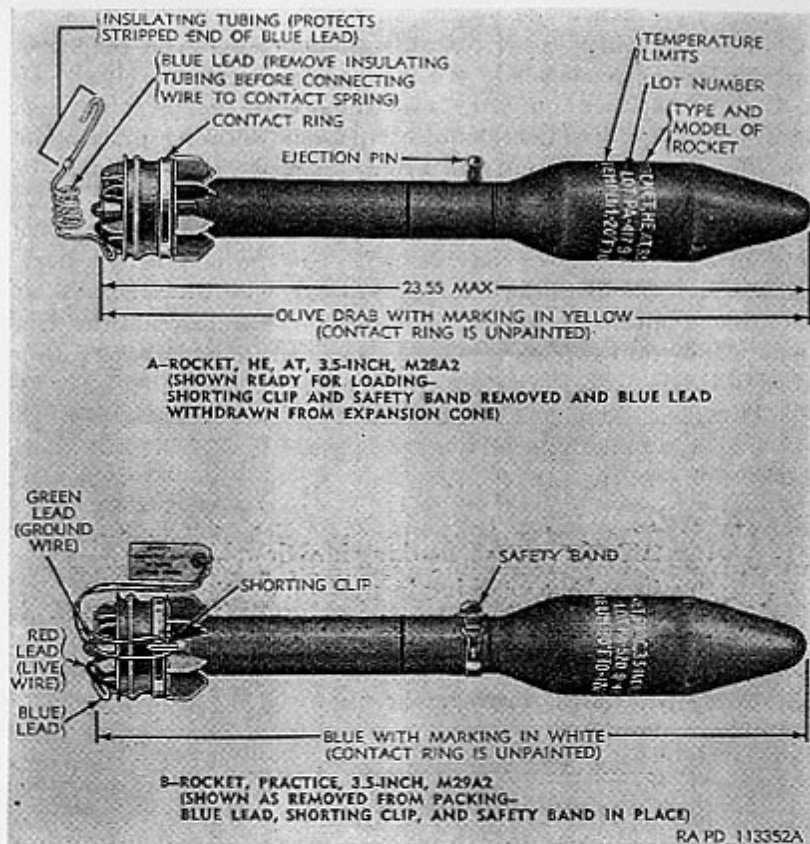

Figure 42. 3.5-inch rockets.
Rocket ammunition for the 3.5-inch rocket launcher M20, M20 modified, and M20B1 is issued in the form of fixed complete rounds (fig. 42). The term "fixed" signifies that the propelling charge is not adjustable and that the round is loaded into the launcher as a unit. The complete round consists of a rocket head, a fuze, a rocket motor which contains the propellant and its igniter, and a fin assembly which is rigidly attached to the rear of the motor. The fuze body, threaded at both ends, serves also as a coupling for the rocket head and motor.
d. MARKING. Standard markings are stenciled on the rocket in the appropriate color (fig. 42 and *e* below). They include the type, size, and model of the item; the ammunition lot number which consists of the loader's initials or symbol, the loader's lot number, and the date (month and year) of loading; and the temperature limitations within which it is safe to fire the rocket.
- (1) *Description.* The rocket motor assembly consists of the propellant and igniter housed in a metal tube to which the fin assembly is securely attached. The front end of the tube is assembled to the base of the fuze—the rear end is constricted to form a nozzle. The cylindrical motor cavity is divided into four sections by two axial spacer plates set at right angles to each other. The rear ends of the spacer plates rest against the trap. The same motor is used for both the HE, AT, and practice rockets, although there are some differences in the motors assembled to rockets of different modifications. The principal differences are in the trap, fin, and contact ring assembly, as indicated below. The trap in the M28 and M29 rockets is a cast steel grid whereas that in the later modifications is a steel disk with drilled holes.
- (2) *Propellent.* The propelling charge consists of 12 grains of the M7 propellent. Each grain is 5 inches long and approximately $\frac{3}{8}$ inch in diameter and weighs 0.03 pound. Three grains are placed in each of the four sections (a total of 12 grains—0.36 pound—of propellent) formed by the spacer plates. Each lot of propellent is adjusted at the time of manufacture to give standard velocity. Since the rate of burning increases with the initial temperature, it is important not to fire rockets at temperatures beyond the limits marked on each rocket. Firing at temperatures below the minimum (-20° F.) will give erratic ranges and excessive back blast of powder particles; firing at temperatures above the maximum ($+120^{\circ}$ F.) will cause dangerous pressures to build up within the motor. The propellent is ignited by the igniter M20 ((3) below).
- (3) *Igniter and leads.* The igniter M20 (T18), which consists of a short, cylindrical, plastic case containing a 3-gram black powder charge and SQUIB, electric, M1, is assembled in the forward end of the motor on top of the propellent spacer plates. The leads of the electric squib, running parallel to the grains of propellent, pass from the igniter through the nozzle closure into the expansion cone ((4) below). The green lead (ground wire) is connected to the support ring of the contact ring assembly ((4) below). The red lead (live wire) is connected to the contact ring by a tubular rivet which passes through but is insulated from the support ring. These connections are positioned 180° apart. The blue lead ("pig-tail") is actually an extension of the live wire (fig. 42) and, as such, has one end connected to the same terminal as the red
- (4) *Fin assembly.* The fin assembly for each model of rocket consists of an aluminum-alloy expansion cone, three pairs of aluminum-alloy fins (6 fins) and a contact ring assembly. The contact ring assembly, which encircles the fins, consists of three rings: Innermost is the aluminum support ring which is separated from the cadmium-plated copper contact ring (outer ring) by a laminated plastic insulating ring. The fins are spot welded to the expansion cone and the expansion cone is press-fitted to the rear end of the motor tube. On the M28A2 and M29A2 rockets (fig. 42) the contact ring assembly is 1.78 inches wide and the groove in the support ring for engagement with the latch mechanism of the launcher is to the rear of the contact ring, whereas for the other modifications the contact ring assembly is 1.04 inches wide and the groove is forward of the contact ring.
- (1) *Description.* This base-detonating fuze (figs. 42 and 43) is of the simple inertia type which functions with nondelay action upon impact. The fuze body and safety band are olive drab; the fuze nomenclature, the loader's lot number, and the month and year of loading are stamped into the metal. An ejection pin, which passes through the fuze body and prevents movement of the internal parts, is provided to preclude accidental functioning during shipping, handling, and firing. An additional safety feature is provided by the safety band which prevents the ejection pin from moving during shipping and handling. The safety band is not removed from the fuze until the rocket head has been loaded into the launcher. The fuze mechanism consists of a plunger, an actuating sleeve, a firing pin, a setback sleeve, a creep spring, a stop pin, and a lock pin. The explosive train includes a detonator and booster.
- (2) *Functioning.* When the safety band is removed, the ejection pin moves outward approximately $\frac{3}{8}$ inch but still prevents all parts of the fuze mechanism from moving. When the rocket is fully seated, the ejection pin is partially depressed by the launcher thereby freeing the setback sleeve so that it can move on setback. It should be noted that in this condition the fuze is still safe since the ejection pin prevents movement of the actuating sleeve and firing pin. If it becomes necessary to remove the rocket from the launcher, the ejection pin will move outward and reengage the setback sleeve thus returning the fuze to its original safe condition. When the rocket is fired, the force of setback opposing the action of the creep spring moves the setback sleeve to its rearward position where it is held by the lock pin. When the rocket leaves the muzzle of the launcher the ejection pin is thrown clear of the fuze, and the fuze is fully armed. During flight, the firing pin spring prevents the firing pin from striking the detonator, and the creep spring retards forward movement of the plunger and actuating sleeve. The action of the creep spring is strong enough to retard the plunger and actuating sleeve and to prevent the fuze from firing should the rocket strike a light object such as light brush or undergrowth. Upon impact with a more resistant object the plunger and actuating sleeve move forward—the sleeve hits the firing pin lever causing the firing pin to strike the detonator and explode the rocket.
- (1) Remove the shorting clip (fig. 42) from the contact ring assembly before loading rocket into launcher.
- (2) Insert rocket head into launcher, then remove the safety band from fuze.
- (3) Seat rocket fully so that latch engages the notch in the fins.
- (4) With the launcher set at SAFE, the blue lead is withdrawn from the expansion cone, uncoiled, and the insulating tubing removed from the stripped end.
- (5) Connect stripped end of wire to one of the two contact springs on the launcher, whichever is the more convenient.